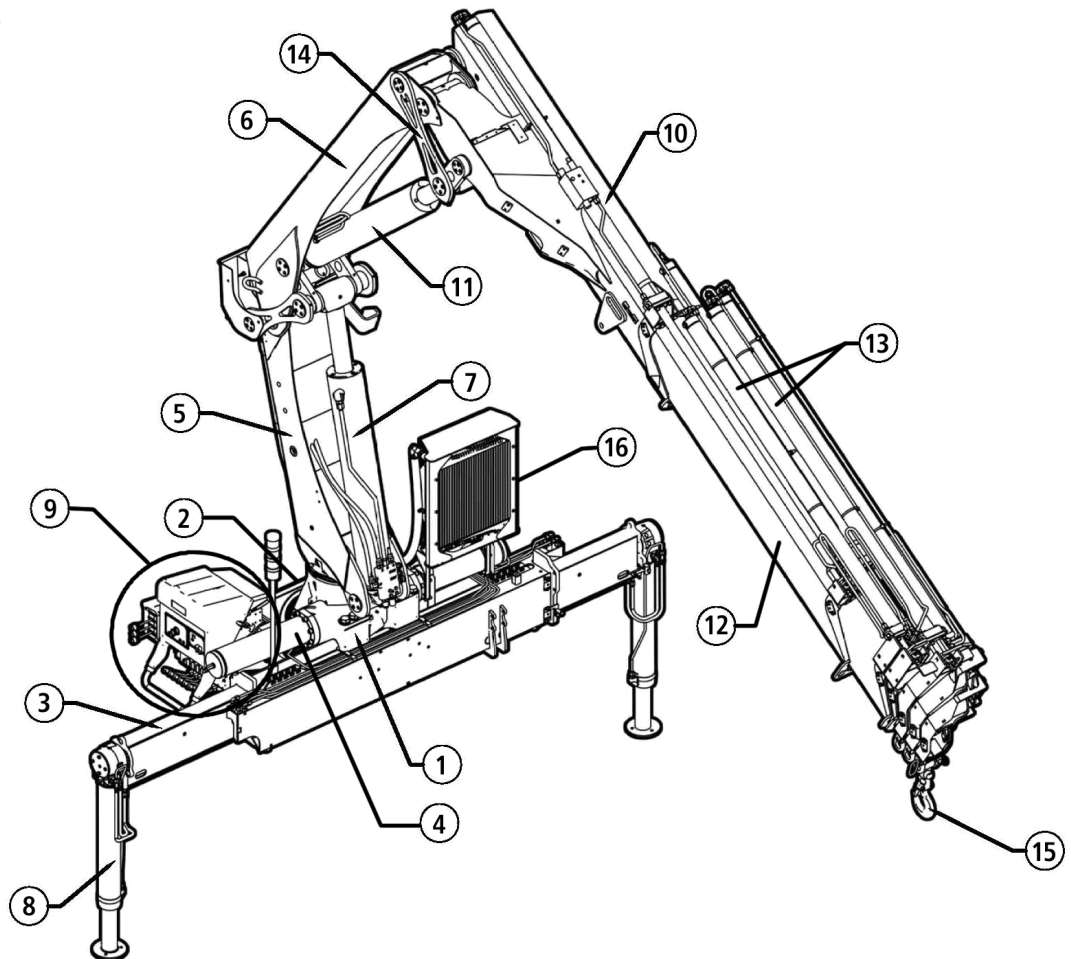

Figure 1.1: Articulating boom crane (ABC) and components
**articulating boom crane (ABC):** A crane with two or more boom sections that pivot (articulate) via hydraulic cylinder(s); also known as a *knuckleboom crane*; see Figure 1.1 (page 4)